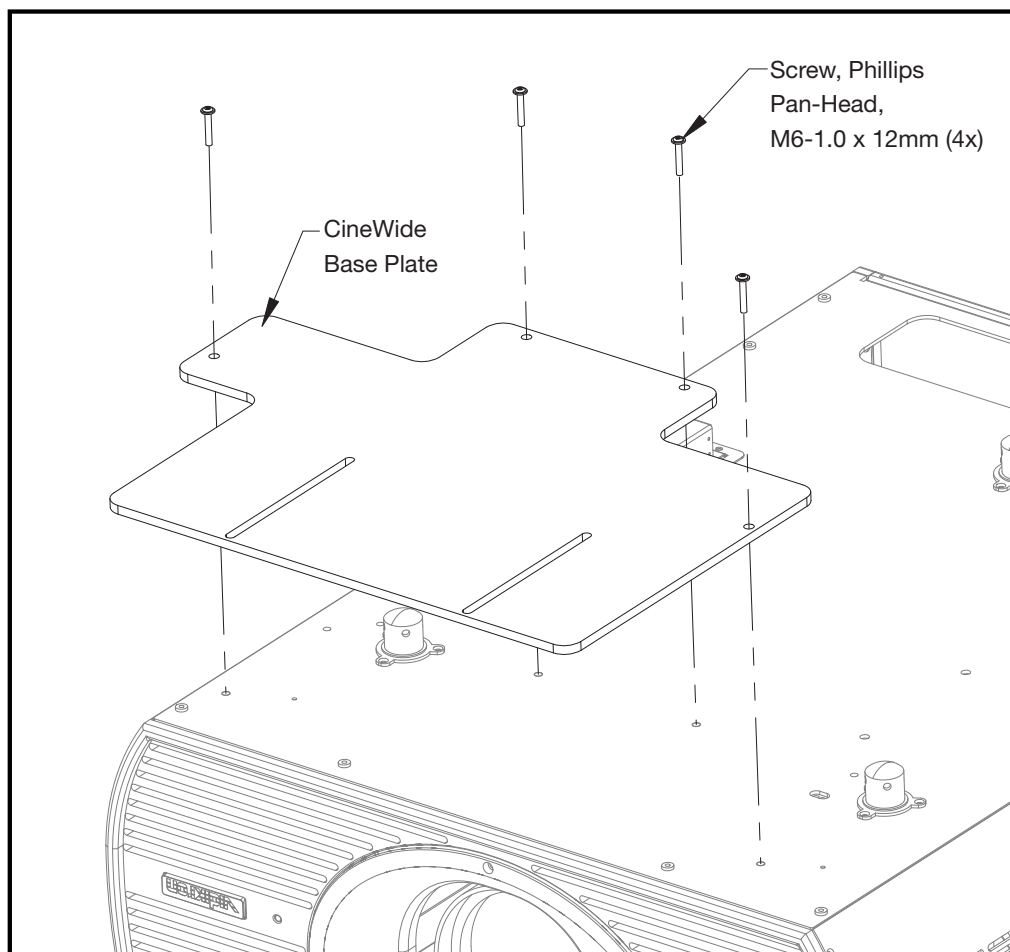

**Figure 3-9. Installing the Fixed CineWide Base Plate**
2. Line up the mounting holes on the lens mount base plate with those on the bottom of the projector, directly below the primary lens (see Figure 3-9).